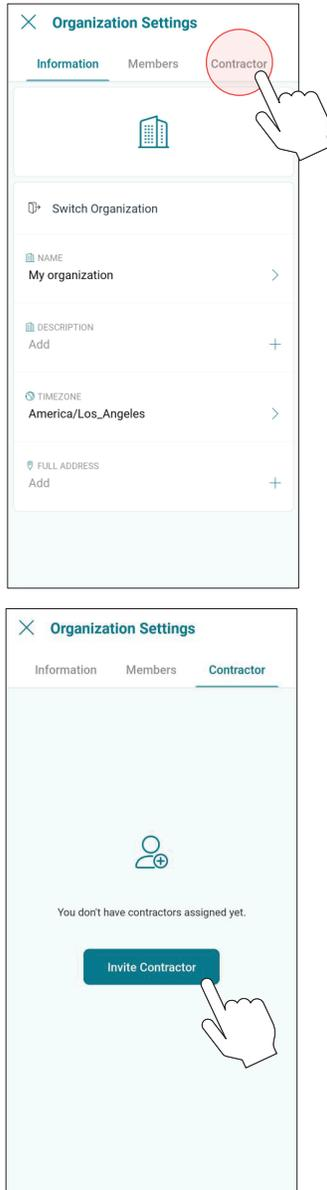

Figure 110. Click on “Invite Contractor”
- Go to **[Contractor]** tab, and press [Invite Contractor]. See Figure 110.